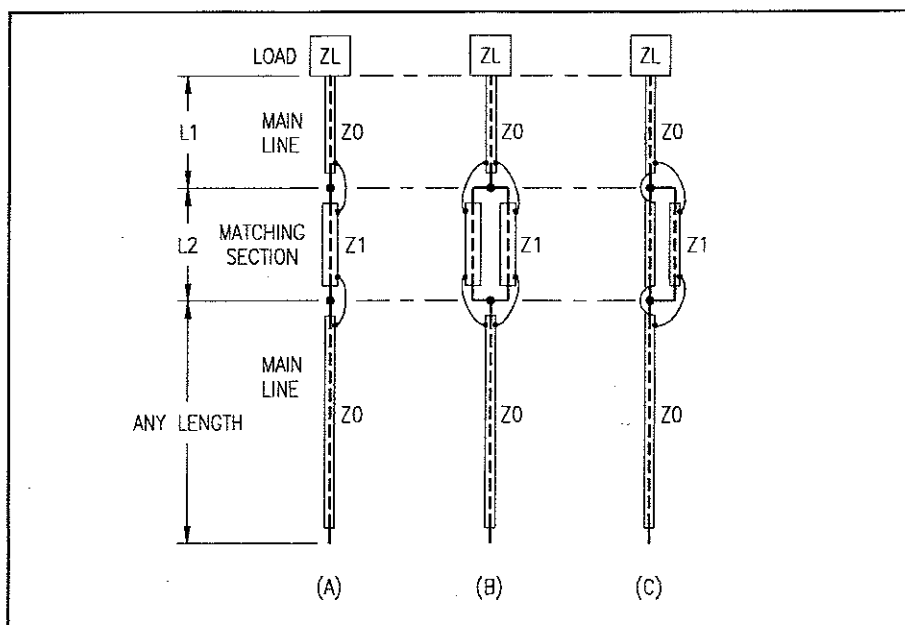
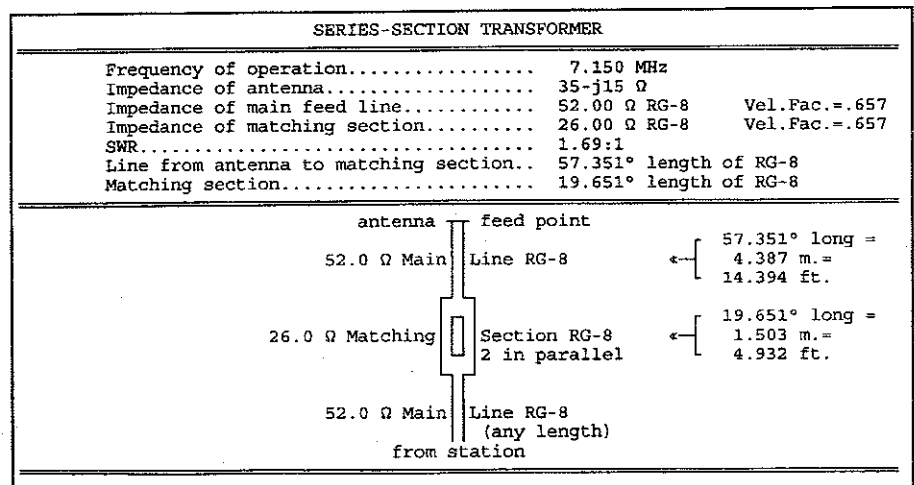

Fig. 1— Series-section impedance transformers made of coaxial cable. (See text for description.)
Fig. 2 - A typical printout using **HAMCALC** to determine values for a series-section impedance transformer.
Many antenna design descriptions will tell you the feed point impedance of a dipole can be assumed to be a pure radiation resistance load of "about" 70 ohms, or a vertical "approximately" 35 ohms, or a mobile whip "as little as" 5 ohms, or some other vague assumption. These values may apply in the Land of Oz, but in the Real World, the many on-site variables affecting an antenna installation rarely result in the antenna being a purely resistive load. Furthermore, the real load (which usually contains other AC current impediments besides radiation resistance) almost never has the same total impedance as the transmission line used to feed it. Therefore, an impedance transformation device to match the actual complex load impedance to the feed-line impedance is often necessary to provide the most efficient operation. There are many ways to do this, one of the *least* popular of these being the use of a series-section transformer¹ made entirely of coaxial cable (see fig. 1[A]).
If you have a computer and *HAMCALC*³ software (version 37 or later), forget the equation altogether. *HAMCALC* will do all the math for you. Fig. 2 is a hard-copy printout of a typical screen display produced by this program.
Fig. 1(A) shows the textbook configuration—a section of dissimilar coaxial cable spliced into the main feed line. But there is more to this than meets the eye. In the course of discussions with Roger Johnson, N1RJ, Roger pointed out other configurations are also possible:
Fig. 1(B) shows two lengths of a dissimilar cable in parallel spliced into the feed line. This provides a matching section with an effective characteristic impedance one-half the impedance of the cable used, thus providing a greater range of design options than available with the fig. 1(A) configuration.
Fig. 1(C) shows an L2 length of the same cable as the main line connected to the main line at two points L2 apart. This will be of particular interest to pecuniarily aware (-••• •••• ••• -•••) amateurs who only have one type of coaxial cable on hand.
Using **HAMCALC** if you have a computer, or the equations if you don't, you design a fig. 1(A) configuration to find that L1 = 36.64 ft. and L2 = 9.01 ft., for a total length of 45.65 feet. This is longer than the total length of feeder you need, so you try a fig. 1(B) configuration. This calculates L1 as 10.77 ft. and L2 as 9.98 ft., totalling 20.75 feet. Much better, but you only have 6 feet of RG-11 so you try fig. 1(C), using RG-8 for everything, and arrive at L1 as 14.93 feet and L2 as 4.93 feet. (see fig. 2).